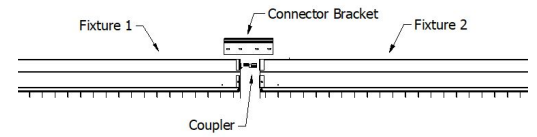

Figure 6
3. For end to end row mount fixtures use the Coupler. First mount the connector bracket shown in Figure 2 onto the first fixture using four #8 screws as shown in Figure 1. To connect the next fixture in series, position the luminaires together as shown in Figure 6. Now connect the coupler to the plug-end of fixture 1 and then to the socket-end of fixture 2. After that, align and securely connect the fixtures to the Row Mount Bracket using eight #8 pan head screws to continuous row mount assembly.